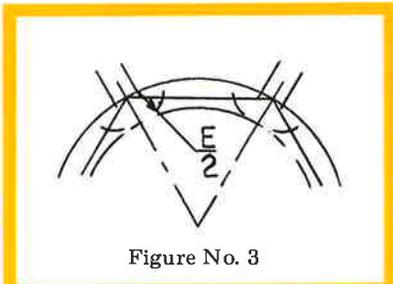

Figure No. 3
STEP No. 6: Locate tooth faces by striking a radius equal to $1/2 (E)$ from the pitch line clearance points on the pitch diameter. (See Figure No. 3.)